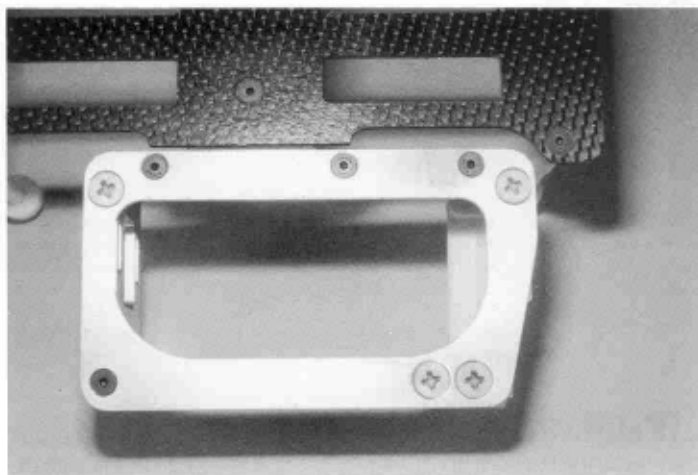

Fig. 32
□ **Fig. 32**— The bottom side of the car should look like this now.